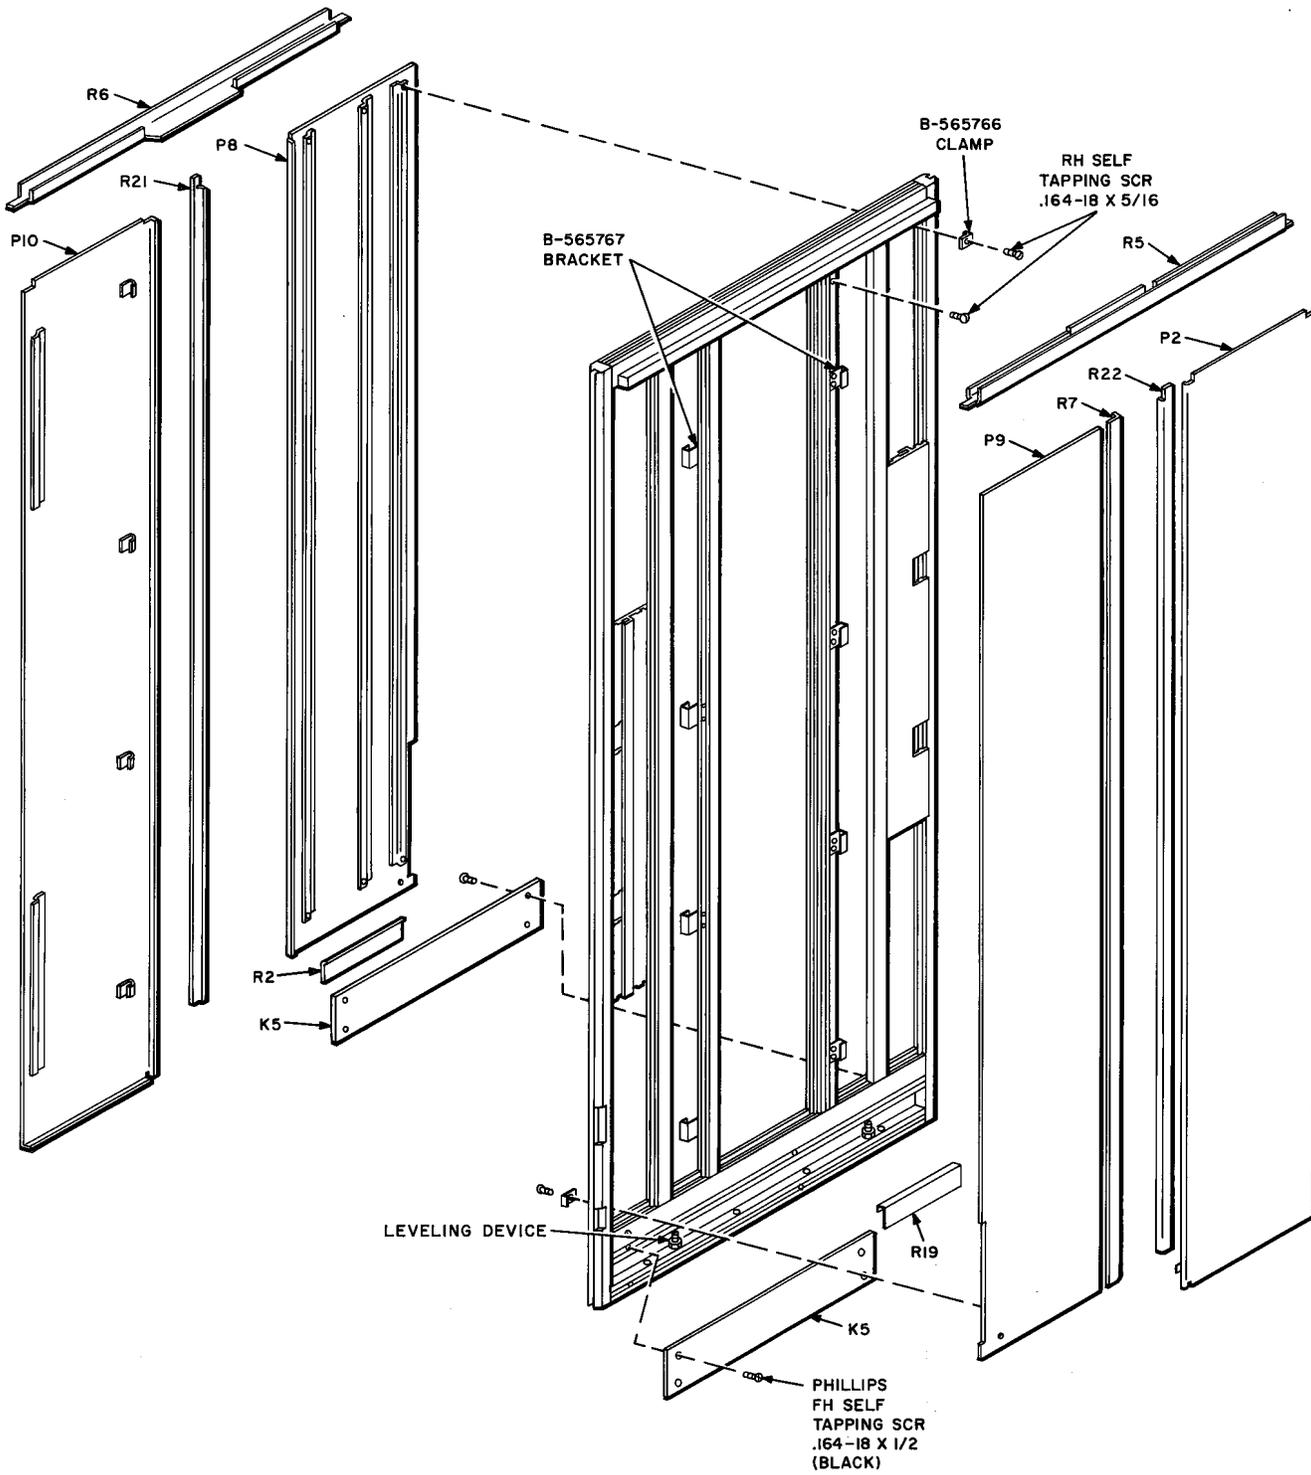

Fig. 32 - F-5 Wall
(p) Install eight B-565767 brackets on the F-5 wall as shown on Fig. 32 using sixteen .164-18 by 5/16 unpainted Phillips round head self-tapping screws.
(r) Install P8 and P9 panels (Fig. 32) on F-5 wall using the same procedure as outlined in (q).
(x) Install P2 and P10 panels (Fig. 32) on F-5 walls (See Fig. 12). Secure P2 and P10 to walls using four .164-18 by 5/16 unpainted Phillips round head self-tapping screws.
(i) Using B-565766 clamps and .164-18 by 5/16 unpainted Phillips round head self-tapping screws as necessary, install P6 panel (Fig. 21) on each of F-1 walls, P7 panel (Fig. 27) on each of F-4 walls, and P8 and P9 panels (Fig. 32) on each of F-5 walls.
- (q) Install eight B-565767 brackets on the F-5 wall as shown on Fig. 32 using sixteen .164-18 by 5/16 unpainted Phillips round head self-tapping screws.
- (s) Install P8 and P9 panels (Fig. 32) on F-5 wall using the same procedure as outlined in (r).
- (y) Install P2 and P10 panels (Fig. 32) on F-5 walls (see Fig. 12). Secure P2 and P10 to walls using four .164-18 by 5/16 unpainted Phillips round head self-tapping screws.
- (i) Using B-565766 clamps and .164-18 by 5/16 unpainted Phillips round head self-tapping screws as necessary, install P6 panel (Fig. 21) on each of F-1 walls, P7 panel (Fig. 27) on each of F-4 walls, and P8 and P9 panels (Fig. 32) on each of F-5 walls.